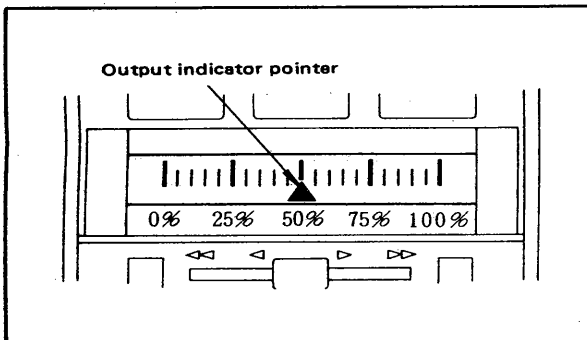

Figure 6-2-3. Output Indicator Main Scale Marks.
- (1) Apply a standard voltage of 3.0 V to input terminals X3 (terminals 5 (+) and 6 (-) from the DC voltage/current standard. (Keep current output terminals A (+) and B (-) shorted.)
- (2) Make sure that the output index is just on the main scale mark in the middle. The tolerance is  $\pm 2.5\%$  (equivalent to 1/2 of each scale division.) (See Figure 6-2-3.)